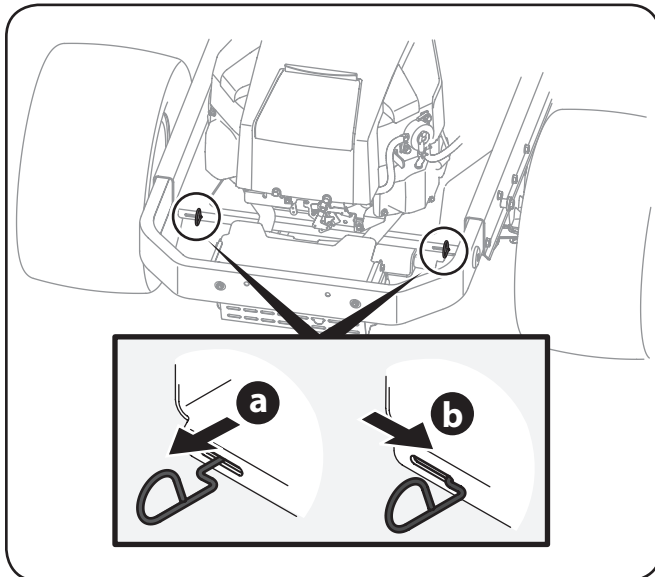

Figure 4-1
1. Engage the transmission bypass rods, one on each side of the tractor, to move the tractor manually without starting it. The transmission bypass rods are located on the rear of the tractor, just inside each rear wheel. Engage the bypass rods by pulling each one out (a) and to the right (b) to lock it into place. See Figure 4-1.
2. Disengage the bypass rods by reversing steps a & b after moving the tractor. See Figure 4-1.